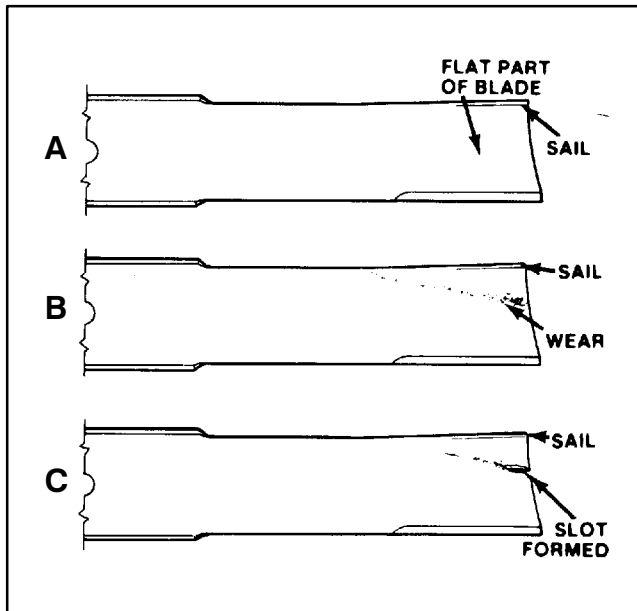

Figure 32
CHECKING SAIL AND SHARPENING CUTTER BLADE (Fig. 32–33)
2. Examine cutting ends of the blade carefully, especially where the flat and curved parts of the blade meet (Fig. 32–A). Since sand and abrasive material can wear away the metal that connects the flat and curved parts of the blade, check the blade before using the mower. If wear is noticed (Fig. 32–B), replace the blade.
If blade is allowed to wear, a slot will form between the sail and flat part of the blade (Fig. 32-C). Eventually a piece of the blade may break off and be thrown from under the housing, possibly resulting in serious injury to yourself or bystanders.